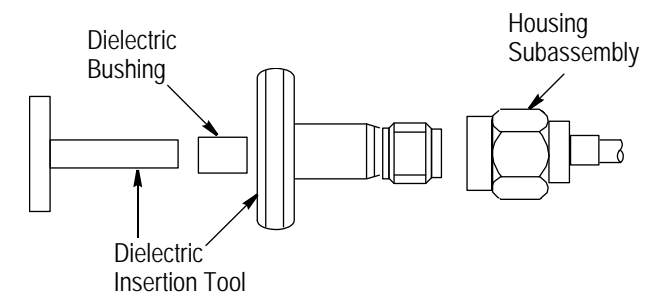

Figure 6
3.4. Press Dielectric Bushing into Housing Subassembly (Figure 6)